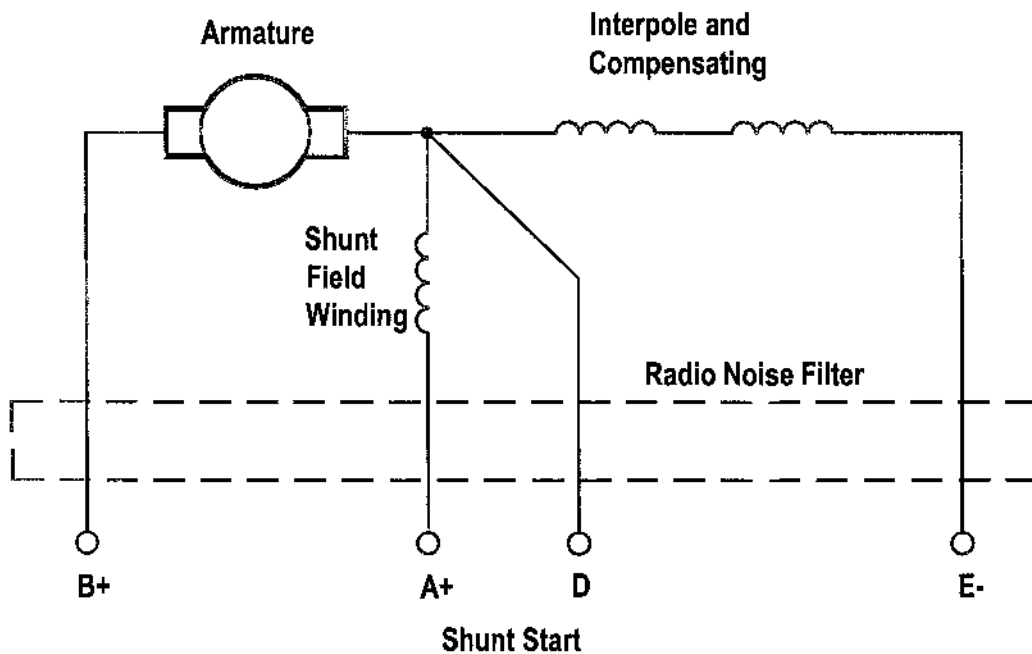

Figure 2 - Models 23079-006, -007 Schematic Diagram
Electromagnetic interaction between the armature and stator produces output torque during engine starting and DC electrical power during engine operation. Figures 2 and 2a are schematic diagrams for the 23079 Series DC Starter-Generator models.
(1) Shunt Start
- (a) During the engine start cycle, the aircraft power bus applies DC voltage across terminals B and E which supplies current to the armature and stator windings. At the same time, a voltage is applied to shunt field terminals A and D from a Goodrich Corporation Generator Control Unit (GCU). The starting power can be supplied by aircraft batteries or a ground power source. Figure 2 is a schematic diagram for a typical shunt start DC starter generator.
(2) Series Start